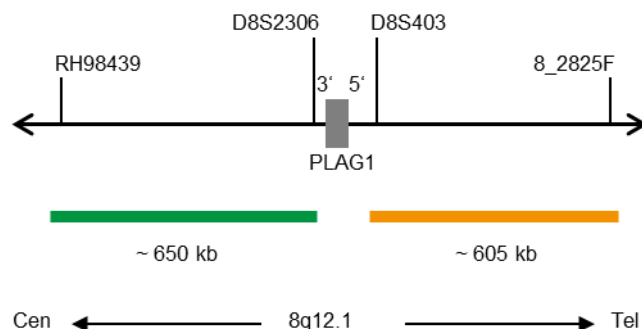

Fig. 1: SPEC PLAG1 probe map (not to scale)
- ZyGreen (excitation 503 nm/emission 528 nm) labeled polynucleotides (~10.0 ng/μl), which target sequences mapping in 8q12.1* (chr8:56,397,025-57,047,991) proximal to the PLAG1 breakpoint region (see Fig. 1).
- ZyOrange (excitation 547 nm/emission 572 nm) labeled polynucleotides (~4.5 ng/μl), which target sequences mapping in 8q12.1* (chr8:57,178,360-57,781,975) distal to the PLAG1 breakpoint region (see Fig. 1).